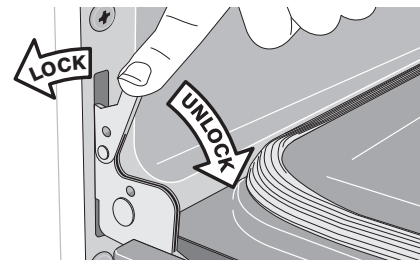

Figure 12: Hinge locks
2. Pull down the door hinge locks located on each hinge support toward front of the oven until the lock stops. (Figure 12).